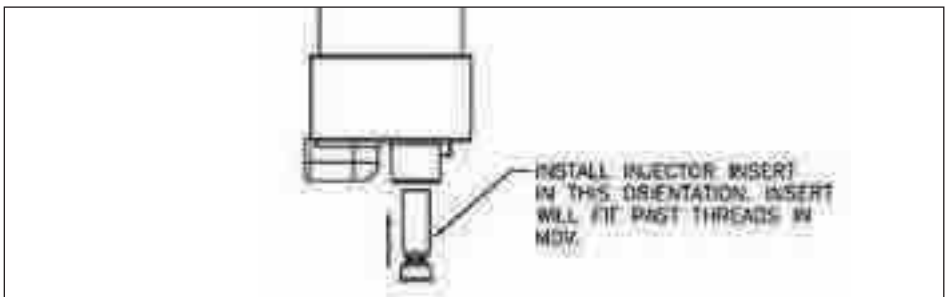

Figure 2. Injector Insert Installation
- a. Install the Injector Insert into the inlet fitting of the MDV (Figure 2). Injector Insert will fit past the threads and will snap into place.